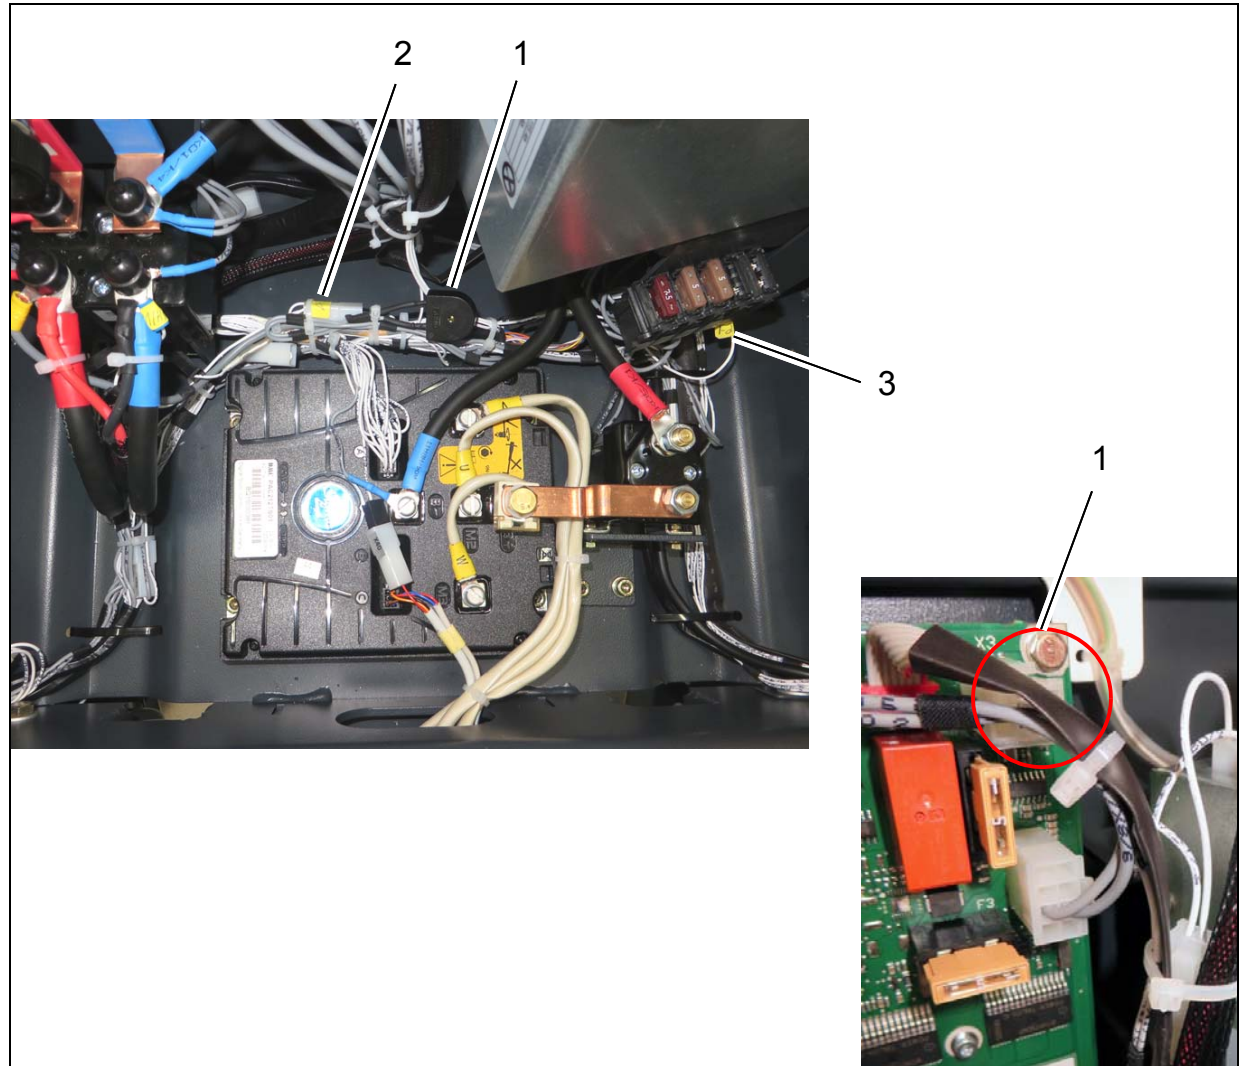

Fig. 12
Run the cable of the P20 buzzer in a loop and fix it to the W77 cable loom using cable ties (Fig. 12/1).
1. Insert the 6-pole plug A01/X3 of the W77 cable loom into the diagnosis slot of the control (Fig. 12/1).
3. Connect the plug A20/X1 of the Fleet-Recorder to the 12-pole plug of the W77 cable loom (Fig. 12/2).
5. Establish a connection to fuse F20 (Fig. 12/3).